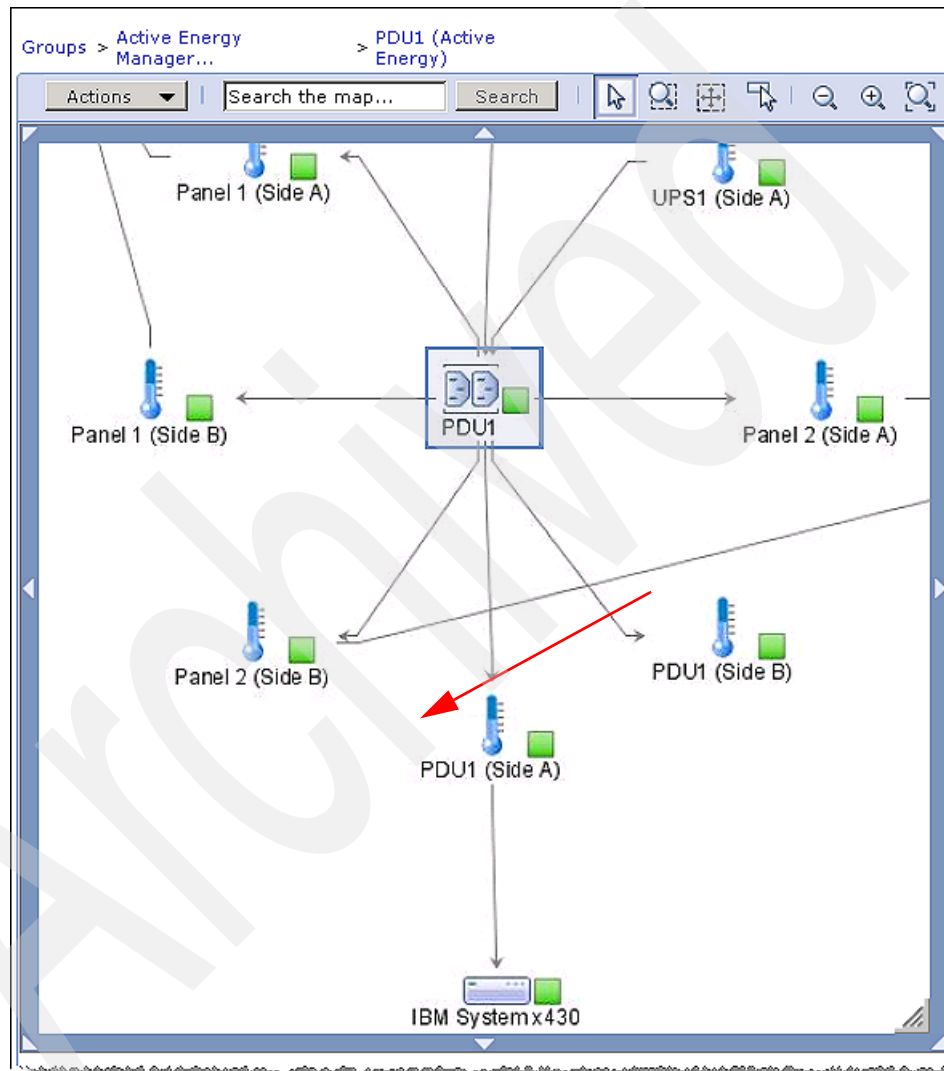

Figure 10-32 Topology view associating the metered device and the PDU outlet
6. To verify the association, navigate to the topology map of the facility equipment. The associated metered device displays in the topology map as shown in Figure 10-32. The metered device has a logical connection to the sensor in the facility equipment. The logical device *IBM System x 430* is externally metered by the PDU1 side A power sensor.